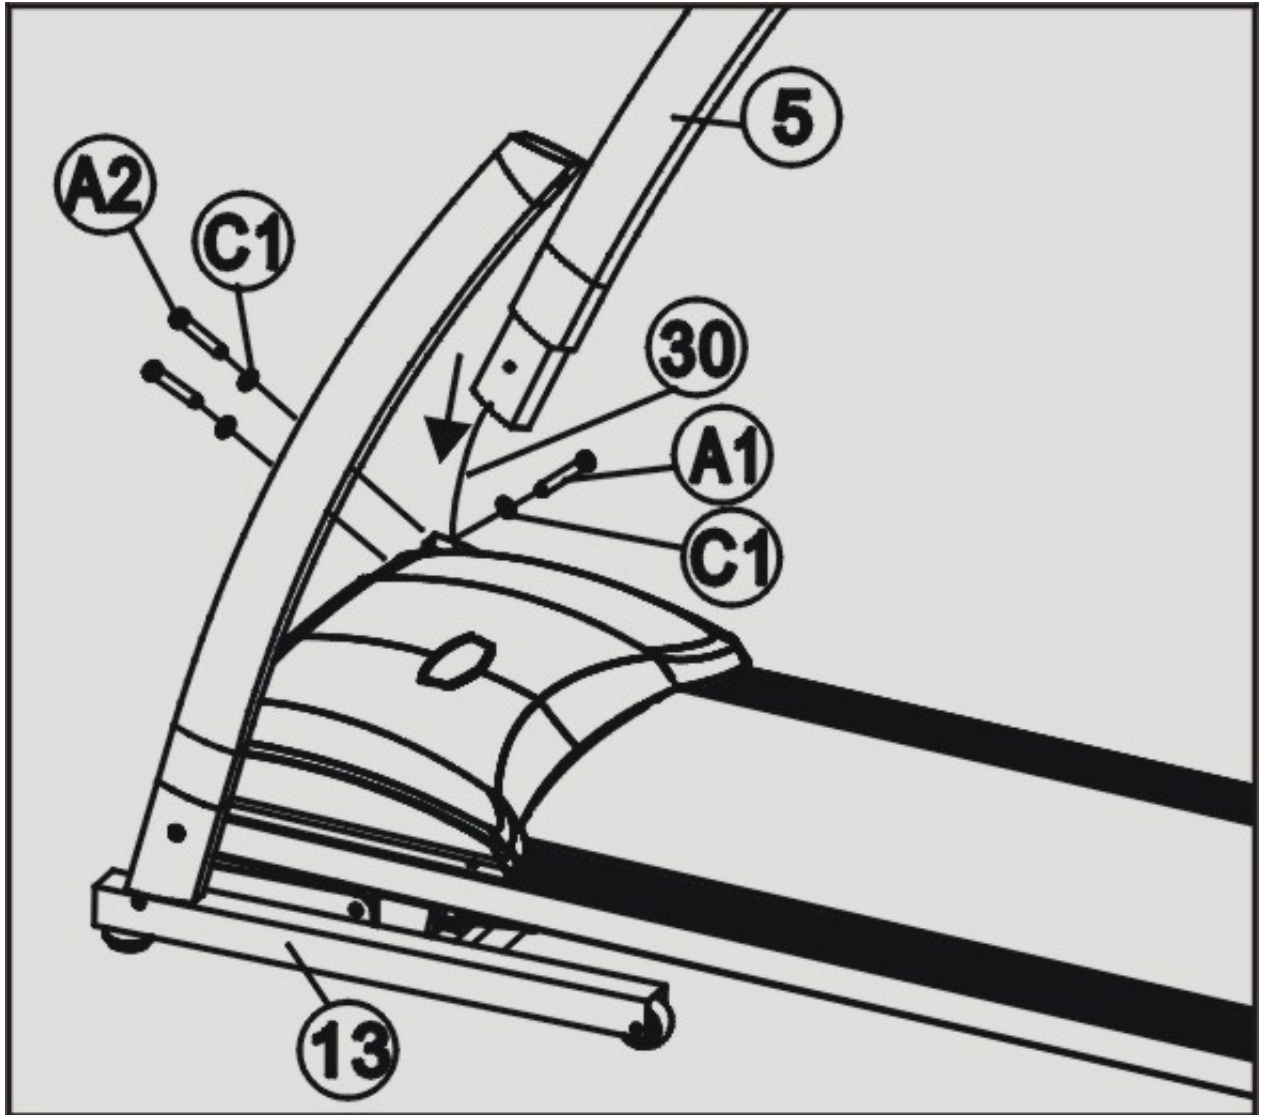

Figure 2
Put signal wire (30) through Right upright tube (5) and Insert Right upright tube(5) to the base frame (13) with two sets of Half-round bolts M8X20(A2), Flat washers $\phi 8$ (C1) in the front and one set of Half-round bolt M8X45 (A1), Flat washer $\phi 8$ (C1) at the side. Do not tighten the bolts. (See figure 2)